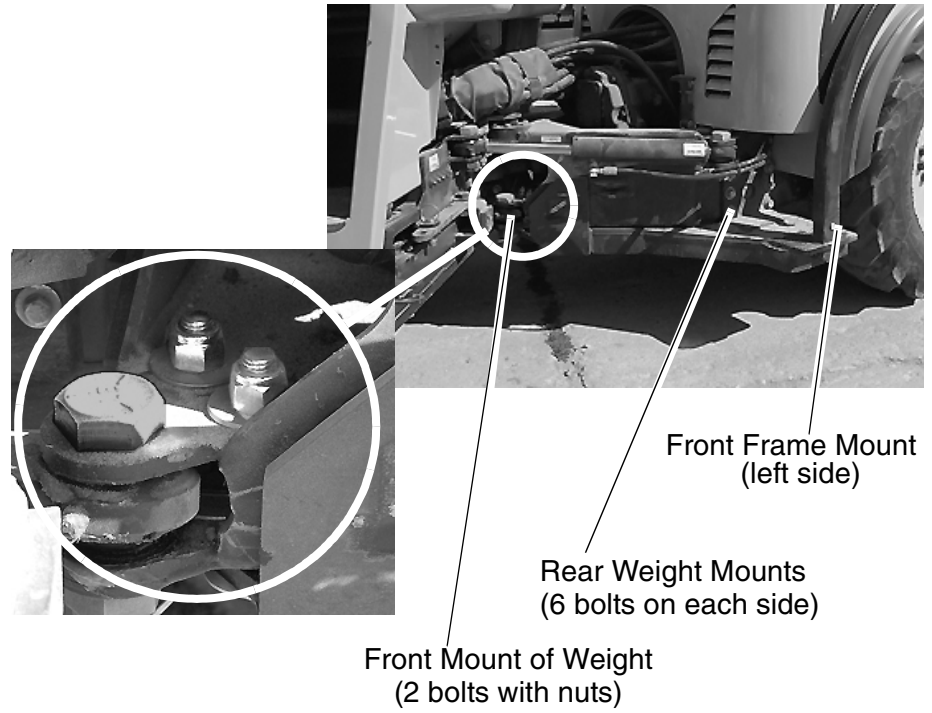

Figure 12
2. Lift into place and secure with bolts and locking nuts (Figure 12).